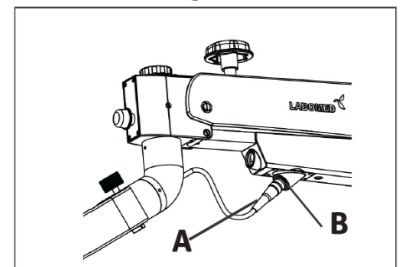

Fig. 42a
2. Connect 4 Pin connector A to B to power up the LED System of Microscope. Refer Fig. 42a.